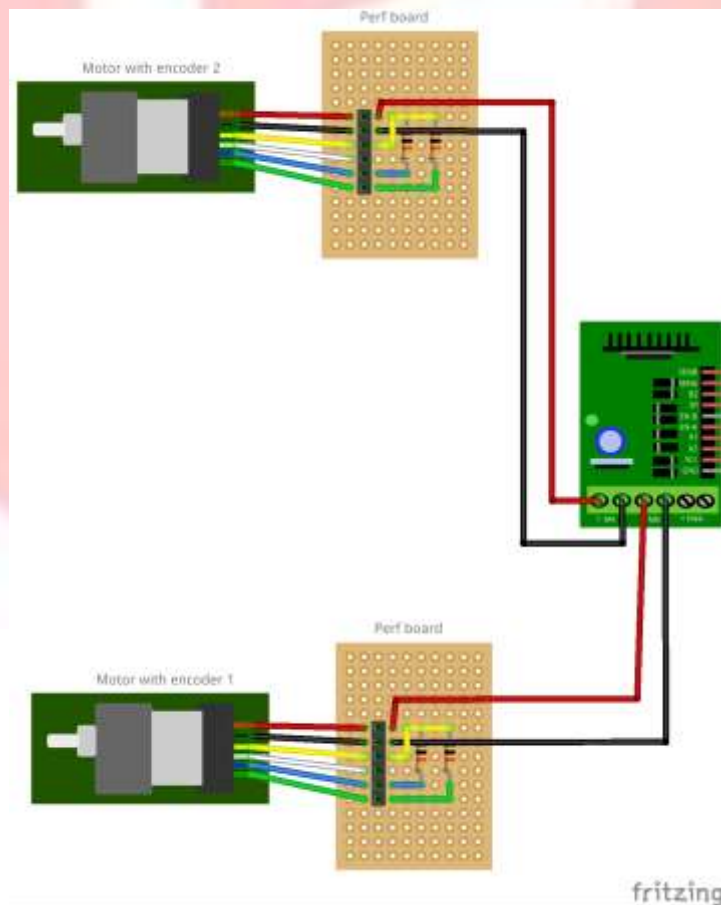

Figure 2: Motor connection with L298 module
2. Then take motor with quadrature encoder board and connect M+ and M- cables to MA 1 and MA 2 connectors of L298 module. Similarly connect M+ and M- of second motor to MB1 and MB2 connectors of L298 module. After this the motor connection will be as shown in Figure 2.